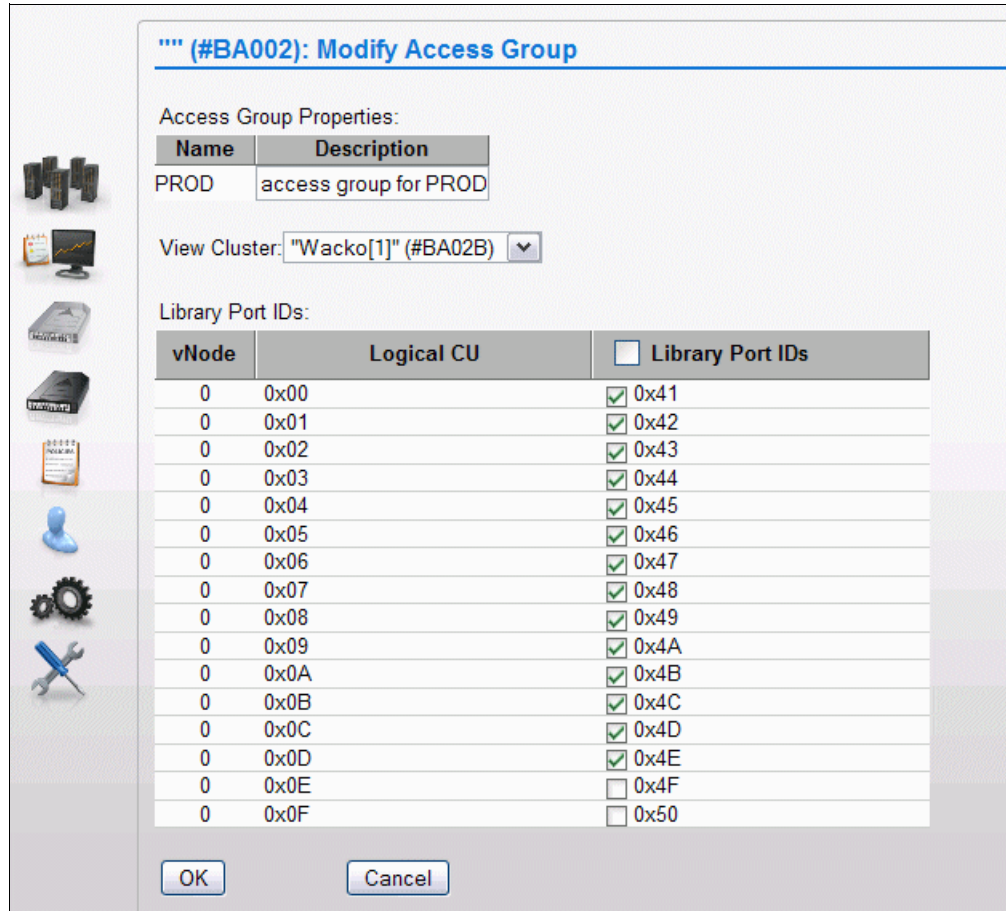

Figure I-13 Modify the access group for PROD LPAR
3. Define 41–4E on Cluster 1, as shown in Figure I-13.